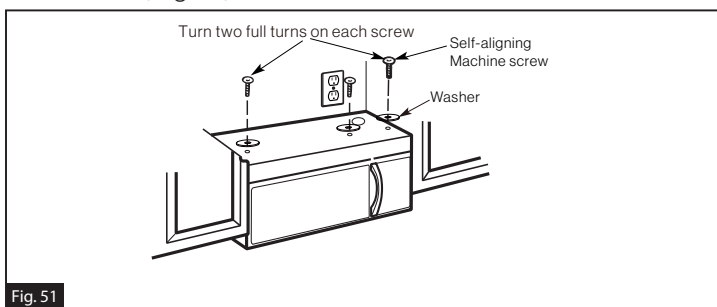

Fig. 51
2. Insert 2 self-aligning machine screws ($\frac{1}{4}$ "-20 X 3") through outer top cabinet holes. Temporarily secure the oven by turning the screw at least two full turns after the threads have engaged. (It will be completely tightened later.) Be sure to keep power cord tight. Be careful not to pinch the cord, especially when mounting flush to the bottom of cabinet. (Fig. 51)